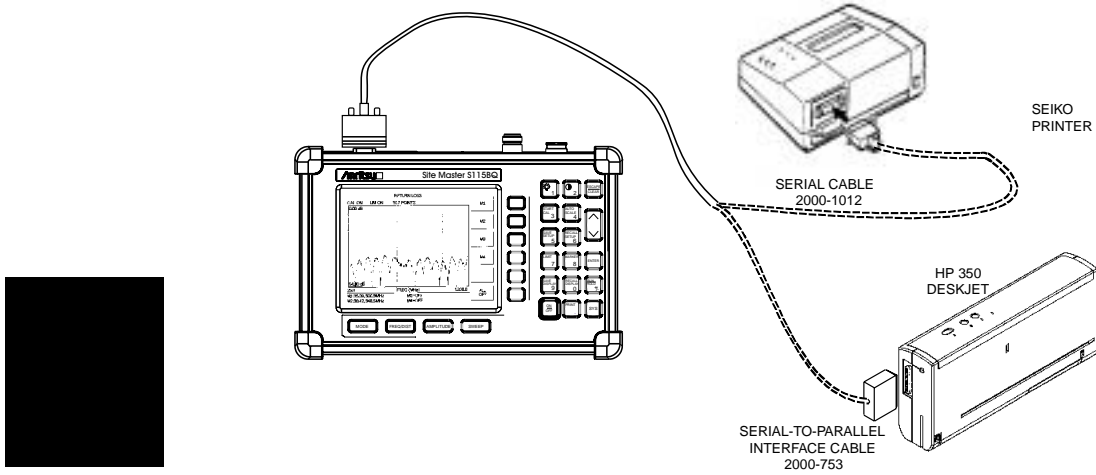

Figure 3-4. Site Master Printer Setup
**Step 1.** Connect the printer as shown in Figure 3-4.